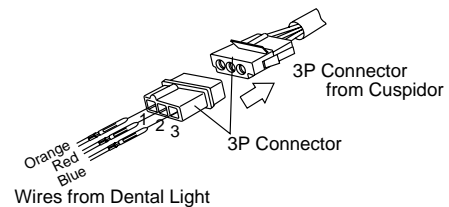

Fig.3-8-3 Connecting wire for 048VG Dental Light
(3) Insert the connector pins on the tips of the wires from dental light into 3P connector housing.(Fig.3-8-3)